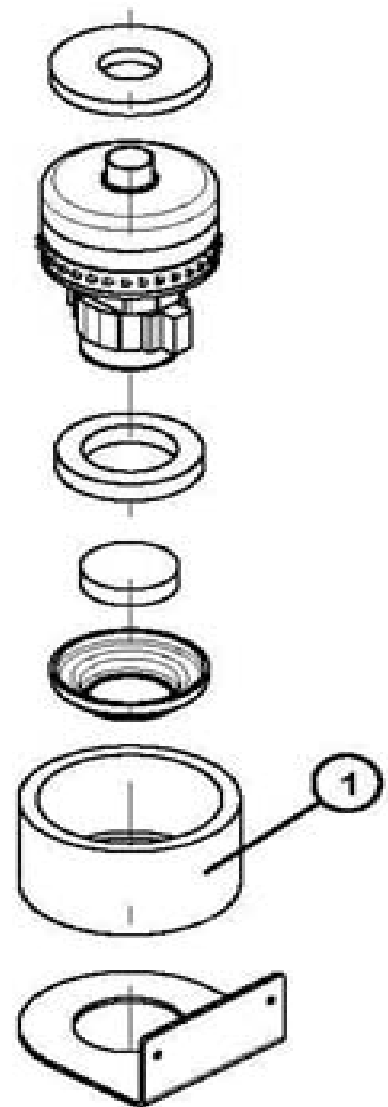

Figure 8-8
2. Remove the vacuum filter (1, **Figure 8-8**) by detaching it from the other parts of the unit.